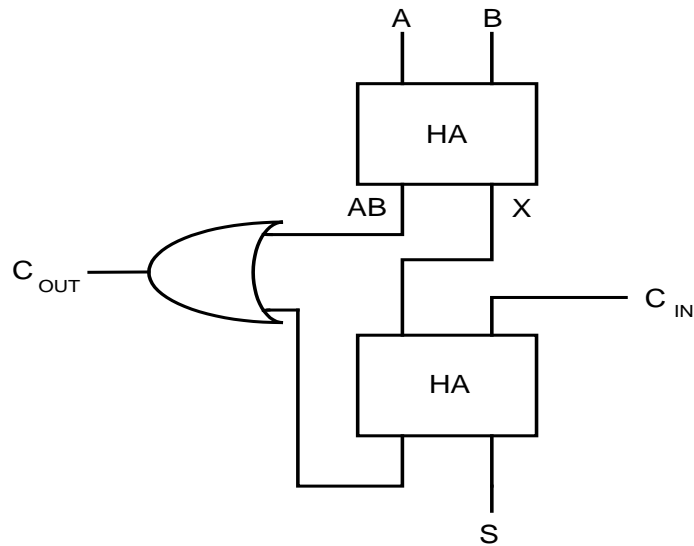

Fig. 10.3. Logic circuit for a full adder.
Notice that if A and B are the inputs to an HA, then X and AB are its outputs. With another HA we can obtain $S = X'Y + XY'$ and $XY = XC_{IN}$. Therefore, full addition can be obtained with two HAs and an OR gate as shown in Fig. 10.3.
2) Build another HA and use an additional OR gate to make a full-adder, as shown in Fig.10.3. Use another switch and pull-up resistor circuit to manually provide the carry in bit. ***Provide a complete schematic. Test the full-adder, and give a truth table for the results.***